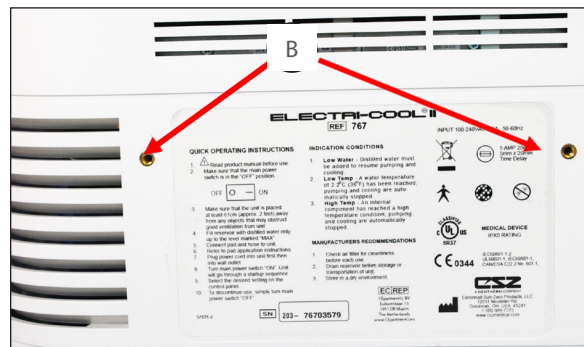

Figure 2 - Mounting the bed bracket to rear enclosure
1. Position the bed bracket so that the two holes (A) align with the holes in the back of the unit (B) (Figure 1) and (Figure 2).